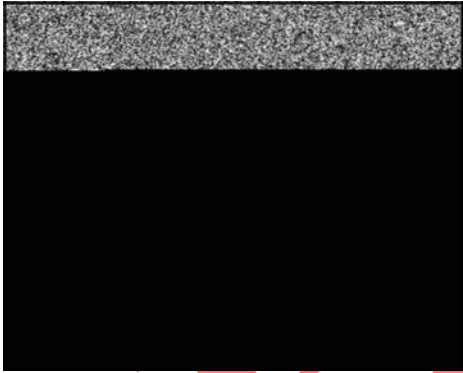

Figure 12
7. Stake bearing into notch (A, Figure 12) with 1/8" round pin punch to prevent bearing from turning.